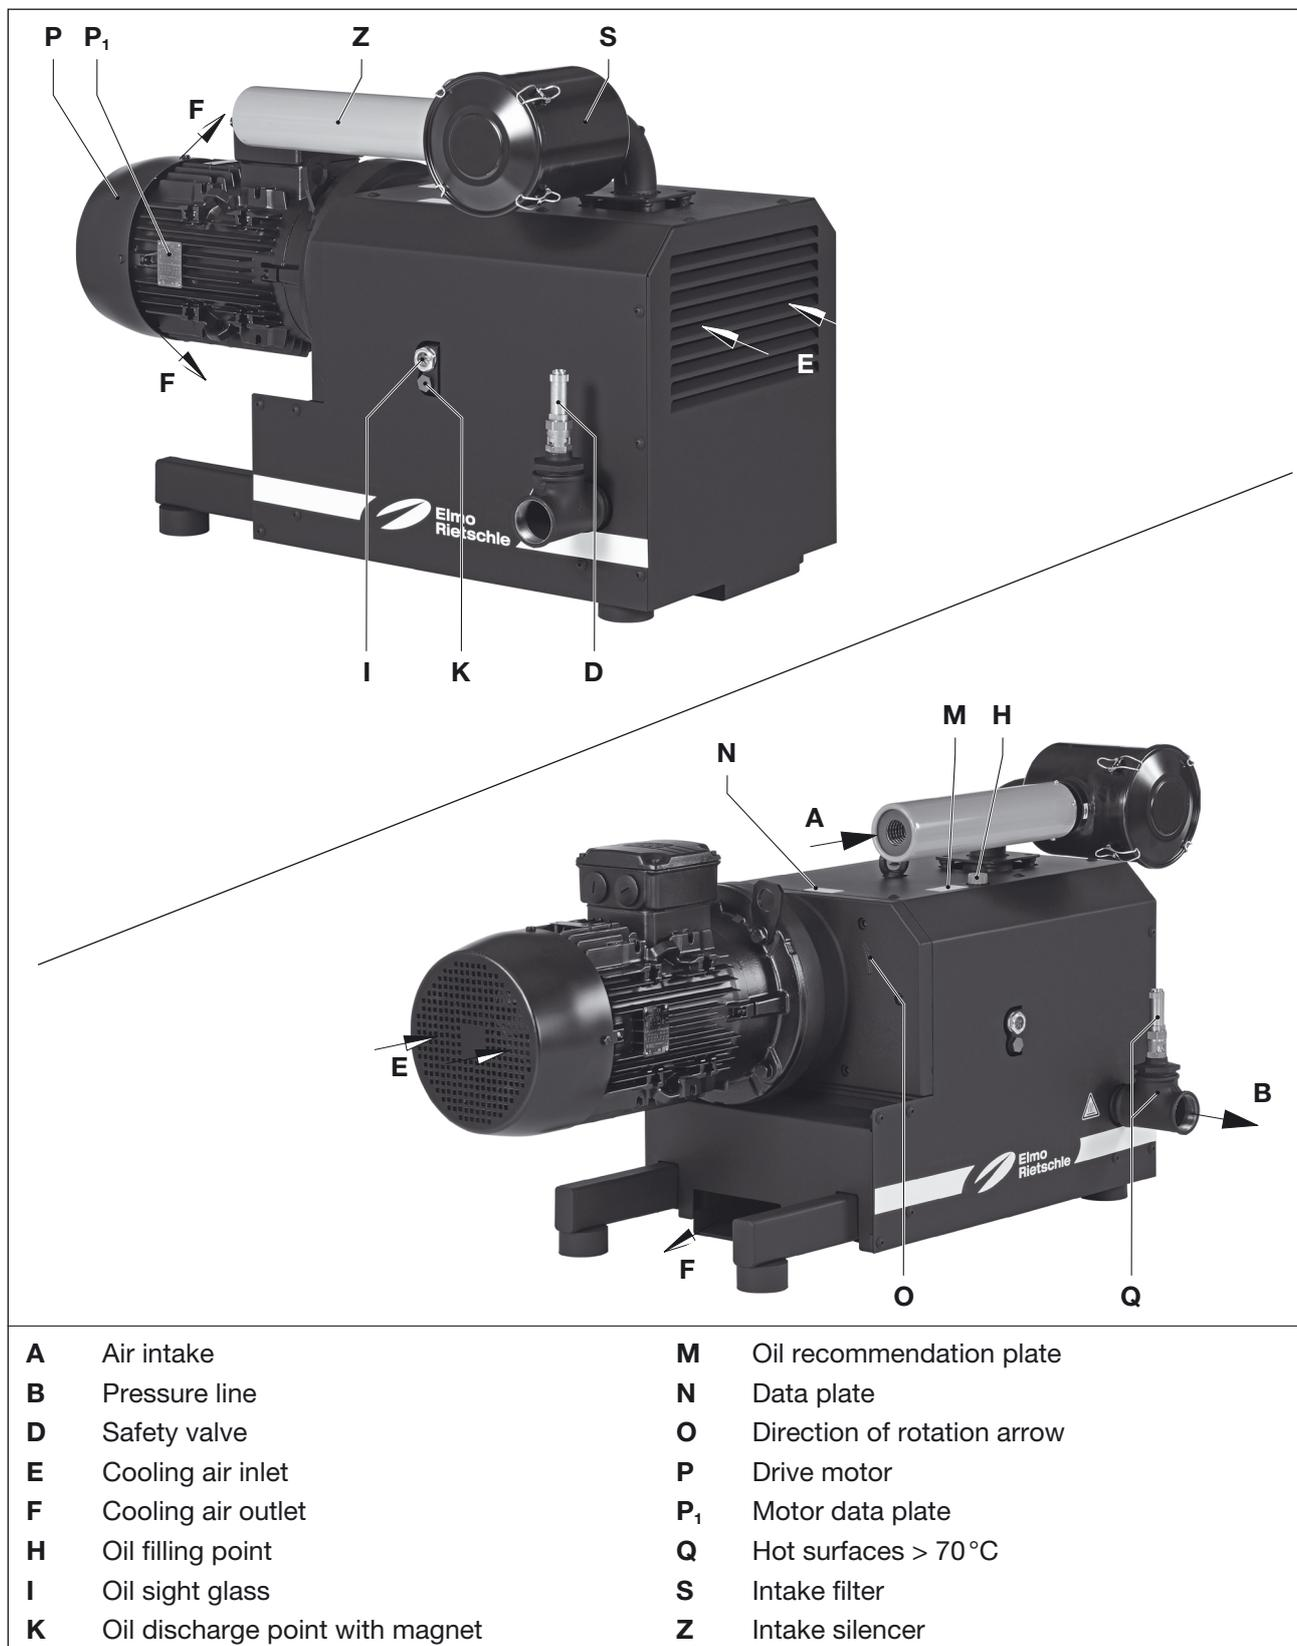

Fig. 2 Compressor C-DLR 301
- Oil filling position (Fig. 2/H), oil inspection glass (Fig. 2/I) and oil drain (Fig. 2/K) must easily be available.
The outlet connection is on the side of the machine (Fig. 2/B).
- a) Remove the blind plug/adhesive film on the inlet (Fig. 2/A) and outlet connection (Fig. 2/B).
- b) Connect the pipe to the outlet connection (Fig. 2/B).
- a) Check the lubricating oil level through the oil sight glass (Fig. 2/I) and top up, if necessary.
- b) Fill the lubricating oil for the gear wheels and bearings at the oil filling point (Fig. 2/H) up to the middle of the sight glass (Fig. 2/I).
Please find the electrical motor data on the data plate (Fig. 2/N) or the motor data plate (Fig. 2/P₁). The motors comply with DIN EN 60034 and are designed in protection class IP 55 and insulation class F. The appropriate connection diagram is located in the terminal box of the motor (not existing for the version with plug connection).
- b) The direction of rotation of the motor must correspond with the direction of rotation arrow (Fig. 2/O) on the motor flange. Check the rotation direction!